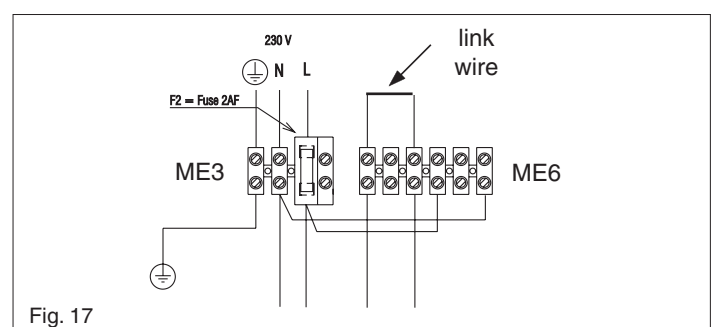

Fig. 17
4.7.3 CONNECTING THE MAINS (230V) INPUT (see fig. 17)
Locate and remove the screw securing the right terminal block cover (230V). Pass the cable through the cable anchorage point. Connect the supply cable wires (LIVE, and NEUTRAL) to their corresponding terminals on the appliance terminal block. Connect the EARTH wire to the EARTH block (see fig. 17) ensuring that it's left slightly longer than the others, this will prevent strain on the EARTH wire should the cable become taut.